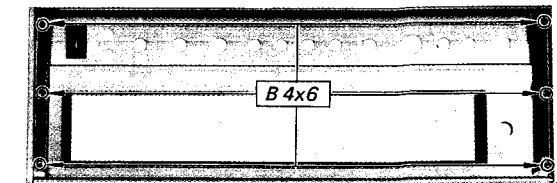

Fig. 2-3. Dial glass removal
2. Remove the six screws (B 4x6) shown in Fig. 2-3.